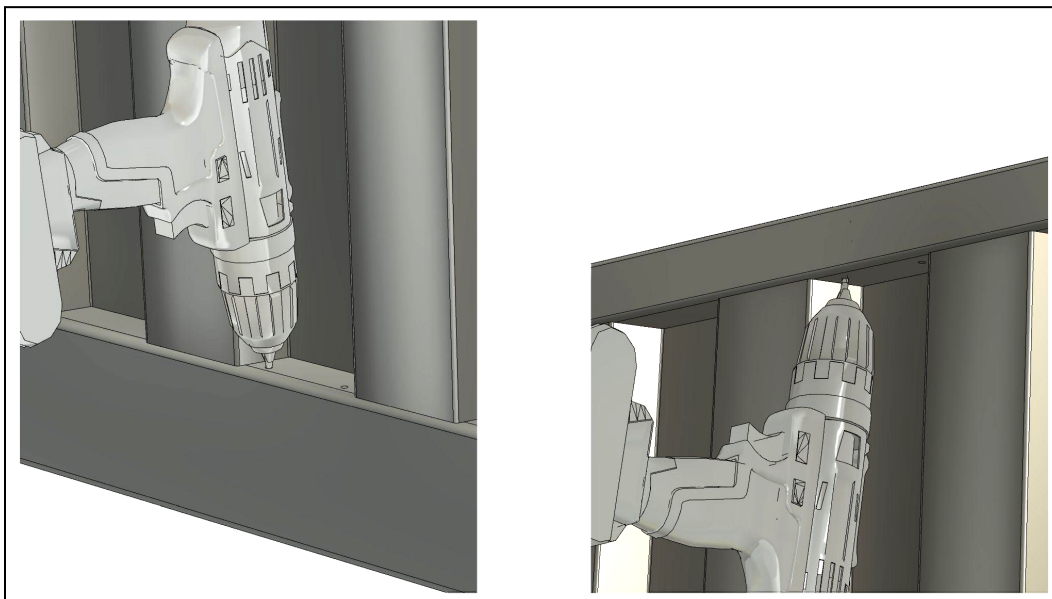

Figure 8 - End Wall Bracket Holes
**Use the bottom brackets on the bottom and top tubing of the end wall.** Line up the corrugation center mark with the bracket center marker. Mark the bottom and top tubing using the bottom brackets and then drill 7/32" holes on each mark. (fig. 8)